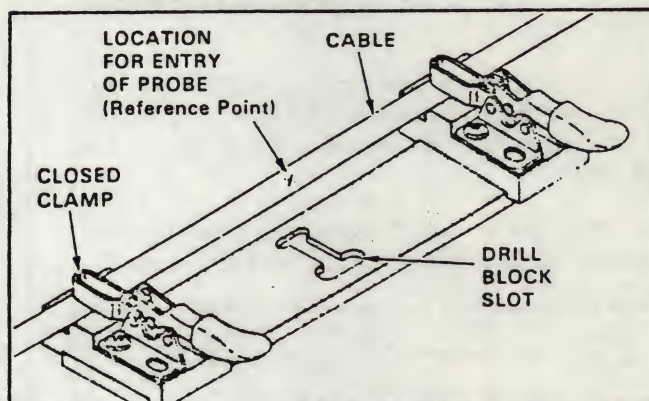

Fig. 5
2. Open cable guide clamps and place cable in cable seats with reference point centered between clamps, then close clamp handles until locked in position. See Figure 5.